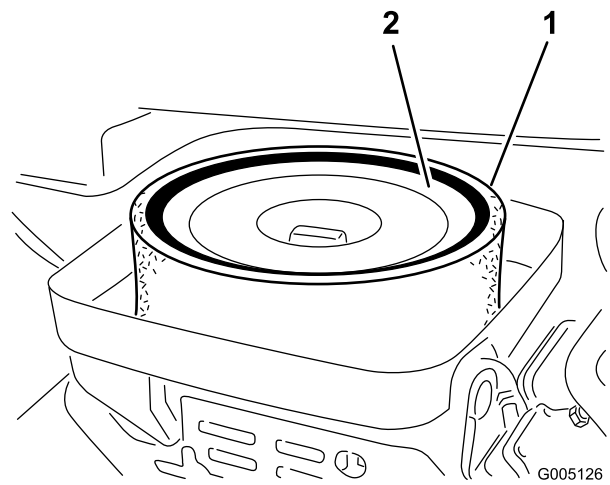

Figure 43
3. If the foam element is dirty, remove it from the paper element (Figure 43). Clean it thoroughly, as follows: